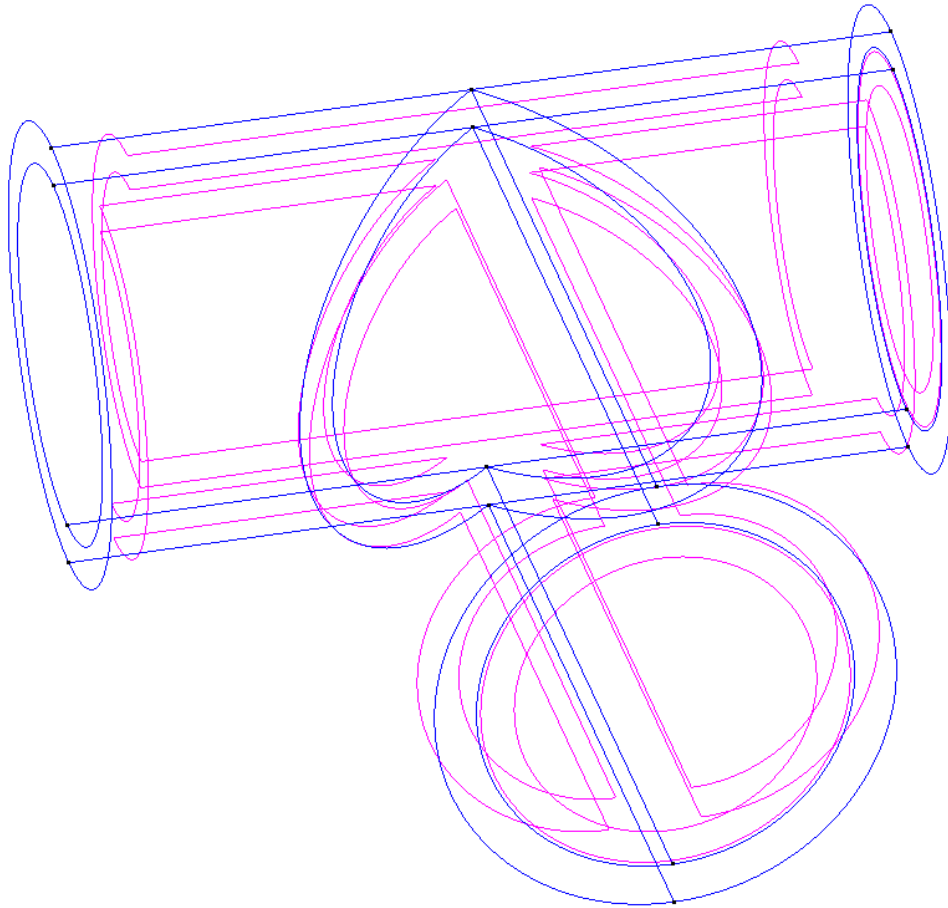

Figure 27. Final configuration after deleting surfaces and lines
- 2 . Choose **Geometry->Delete->Lines**. Select the lines defining the end of the second pipe (foreground) that are still inside the first pipe (background). The result is shown in Figure 27.